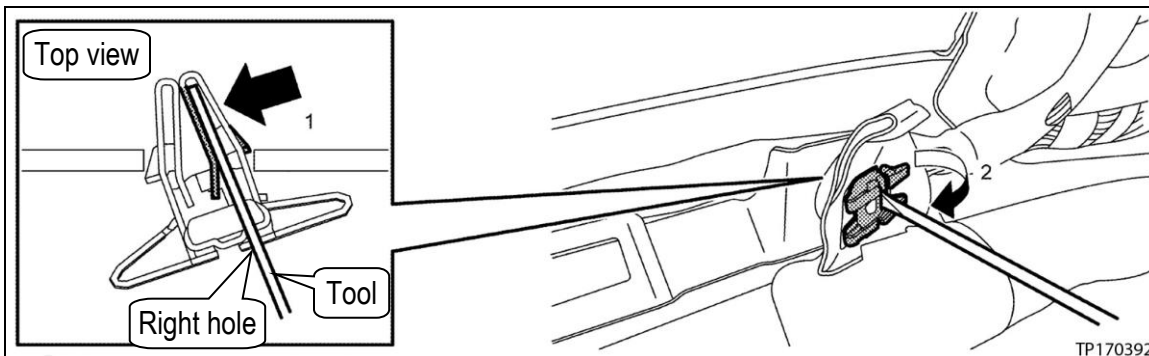

Figure 34
- b. Insert the suitable tool in the clip's right hole, press inward, and then pry out to fully release the clip (see Figure 34).